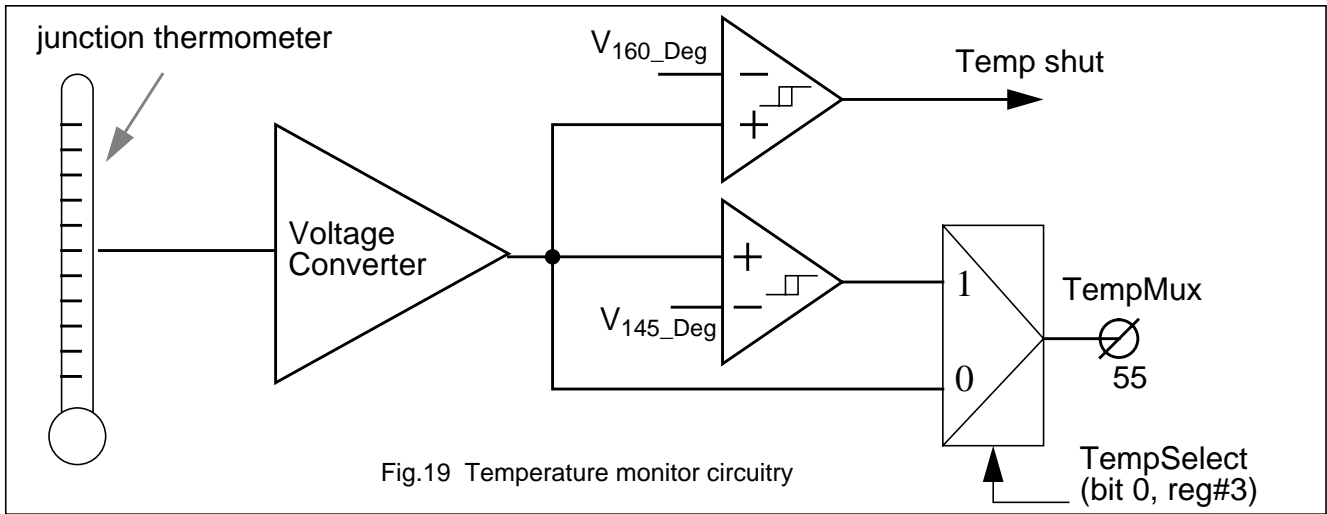

Fig.19 Temperature monitor circuitry
When the digital information is selected, you get a temperature warning on pin TempMux (57). If the internal temperature over passes 145 °C, TempMux = '1' and remains high until the temperature comes below 130 °C (see Fig.19).